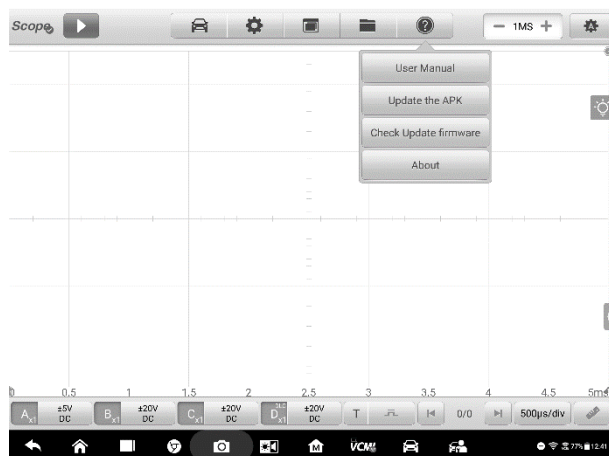

Figure 8-2 Sample Help Screen
1. Tap the **Help** button on the upper half of the screen. A dropdown menu displays. (Figure 8-2)